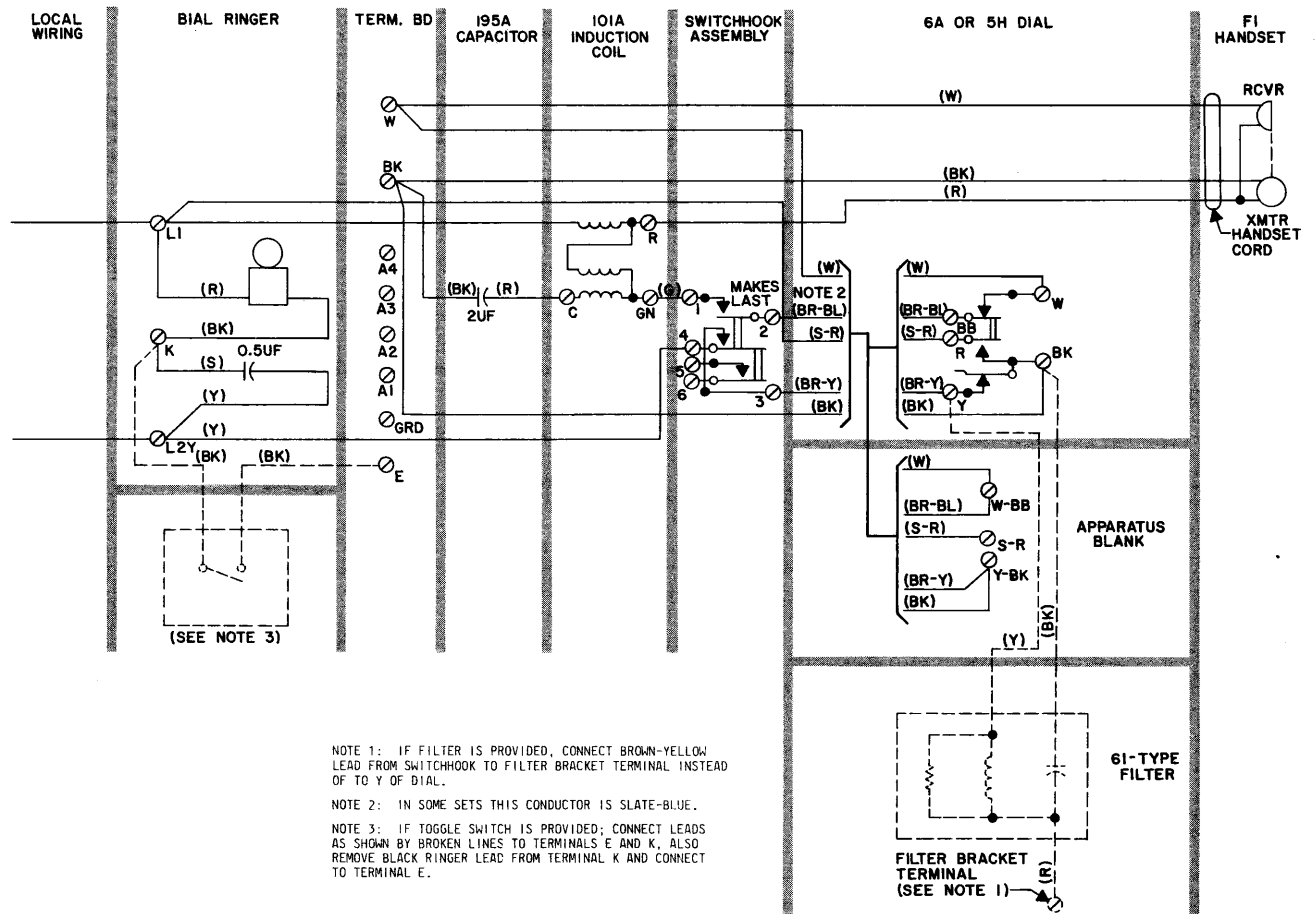

Fig. 2 — Circuit Diagram for 325J, L, M, and N Telephone Sets, Individual or Bridged Services
- 2.03 Connections for individual or bridged lines for the 325J, L, M, and N telephone sets are shown in Fig. 2. The wiring connection for the Hart-Hegeman No. 20599B toggle switch is shown in Fig. 2.